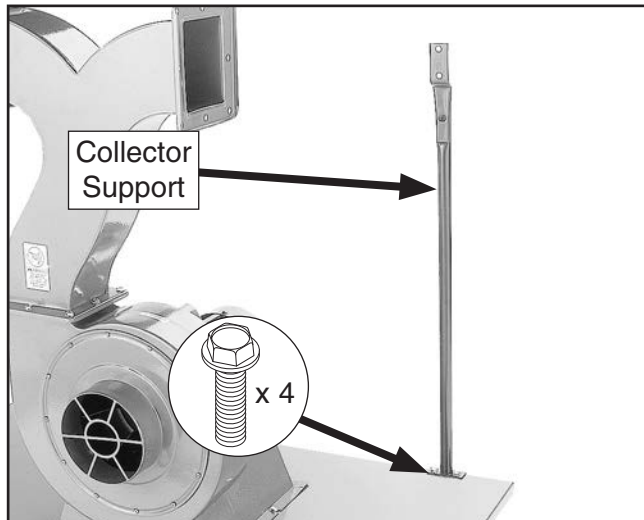

Figure 15. Collector support installed.
6. Align each of the collector supports with the mounting holes on the base, as shown in **Figure 15**, then secure them in place with (4) $\frac{5}{16}$ "-18 x $\frac{1}{2}$ " flange bolts.